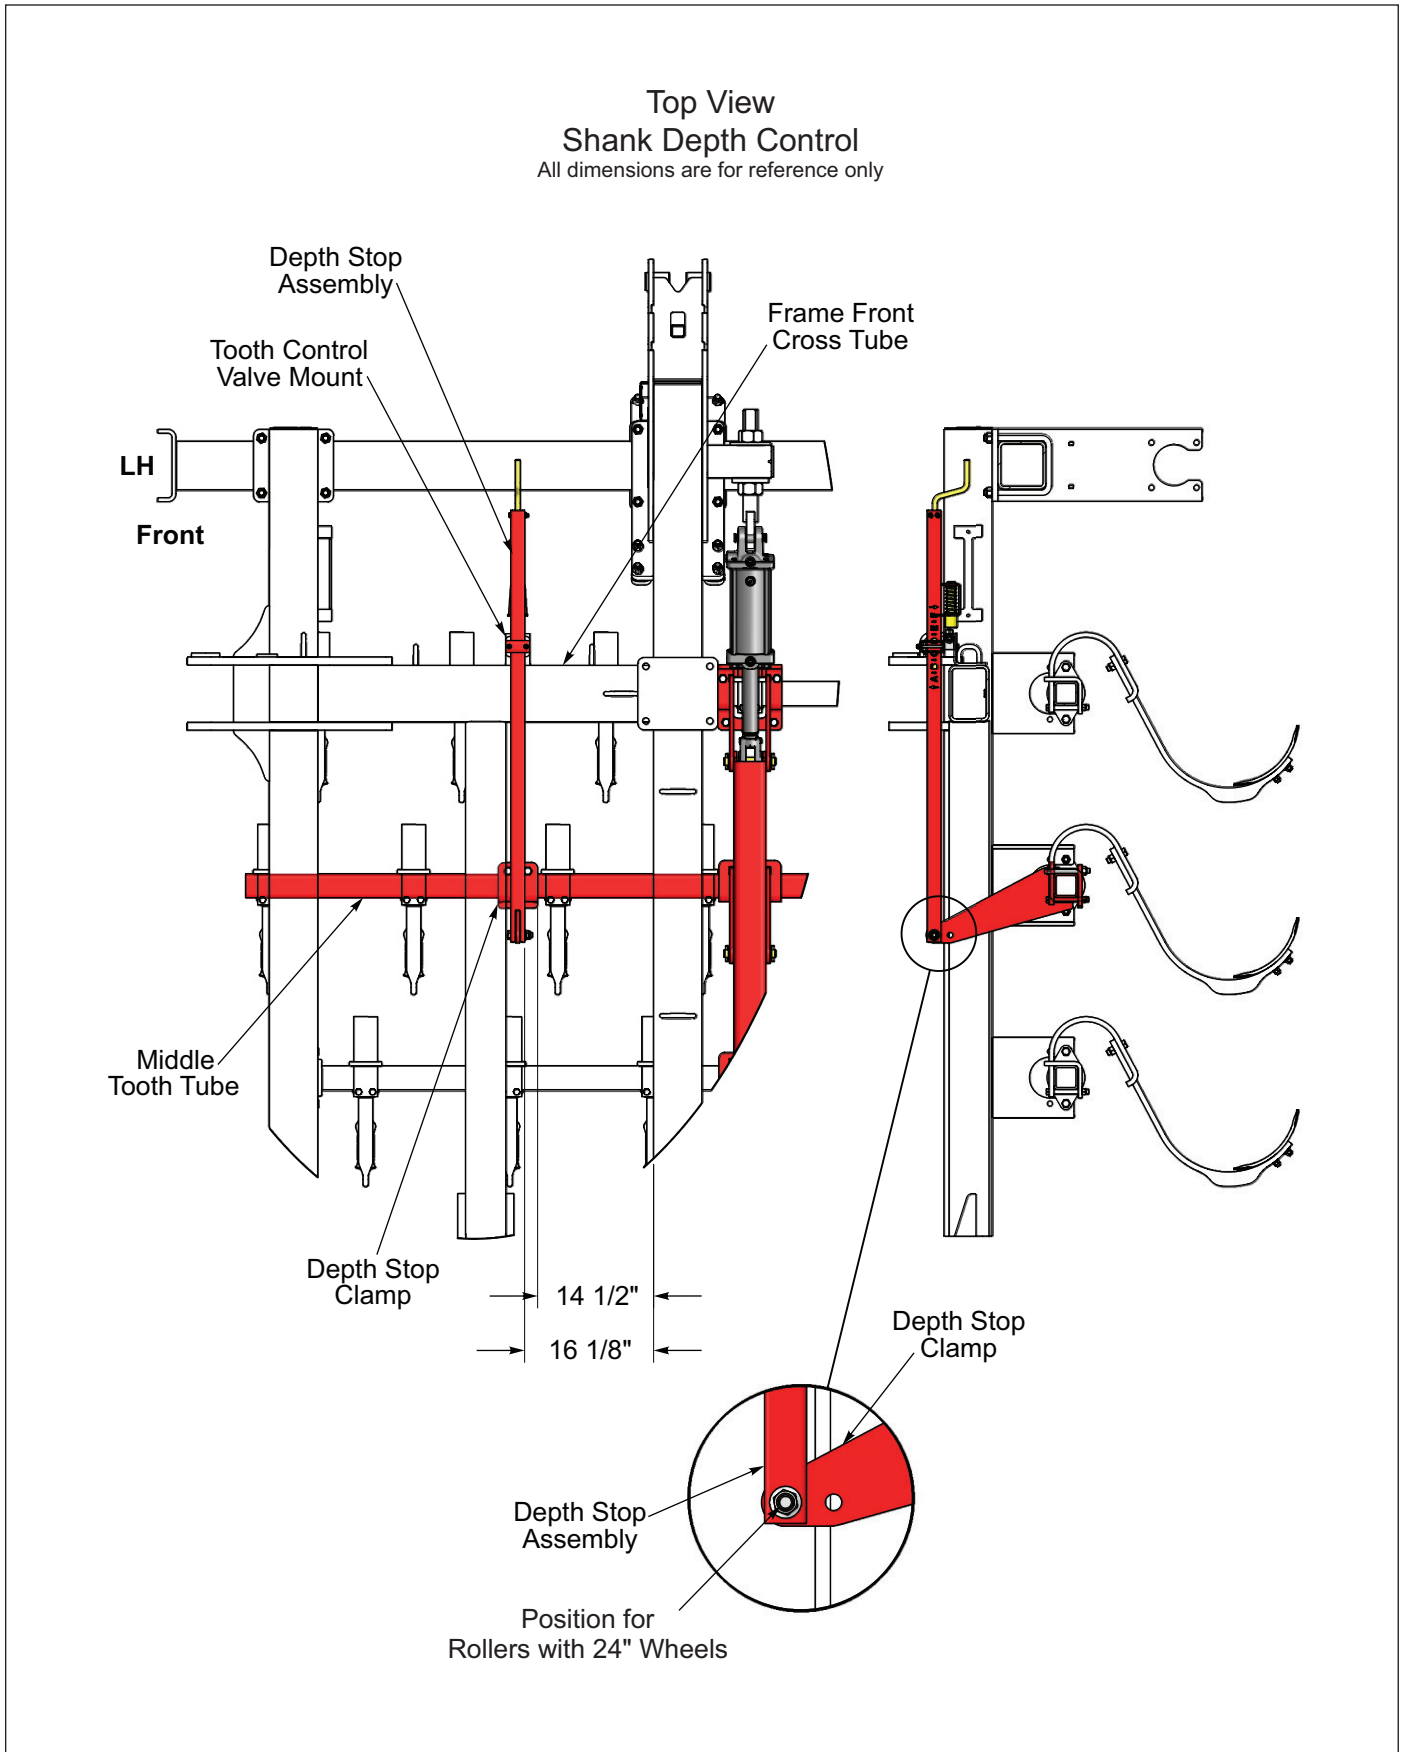

Figure 2-35: Shank Depth Control Dimensions
3. Slide the Depth Stop Assembly through the Depth Stop Guide to the Depth Stop Clamp. Position the Depth Stop Assembly over the Depth Stop Clamp Lug and align the Top Hole of the Depth Stop Clamp for the 24" Roller Wheels. Insert and secure with 5/8-11 x 2-3/4 Bolt and Flanged Locknut. **See Figure 2-35.**